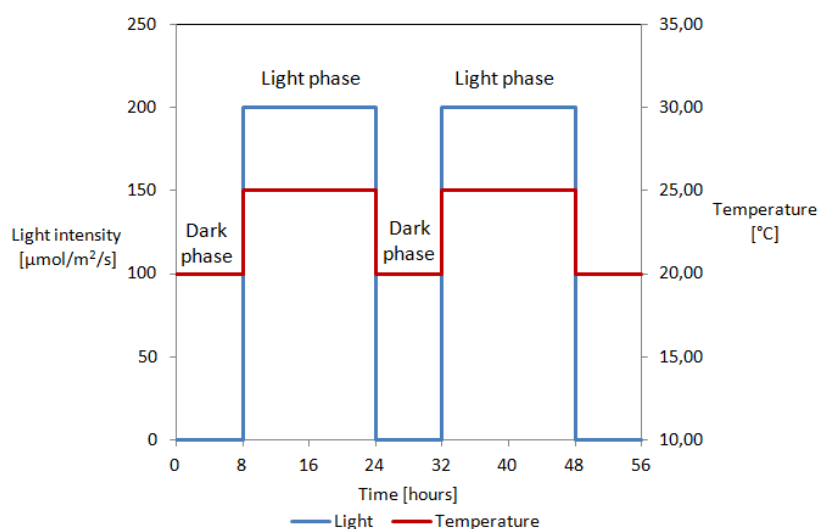

Fig. 33 Graph illustrating circadian cycle protocol.
The example of five-days long experiment using a diurnal Light/Dark phases is described below (Fig. 33). Light phase (LP) takes 16 hours whereas Dark phase only 8 hours (DP; automatically $0 \mu\text{mol}\cdot\text{m}^{-2}\cdot\text{s}^{-1}$). Light intensity during the Light phase is set to a constant level at $200 \mu\text{mol}\cdot\text{m}^{-2}\cdot\text{s}^{-1}$ (Fig. 33). The Light protocol is identical for all 8 cultivation tubes. The cultivation temperature is different for Light phase (25°C) and Dark phase (20°C).